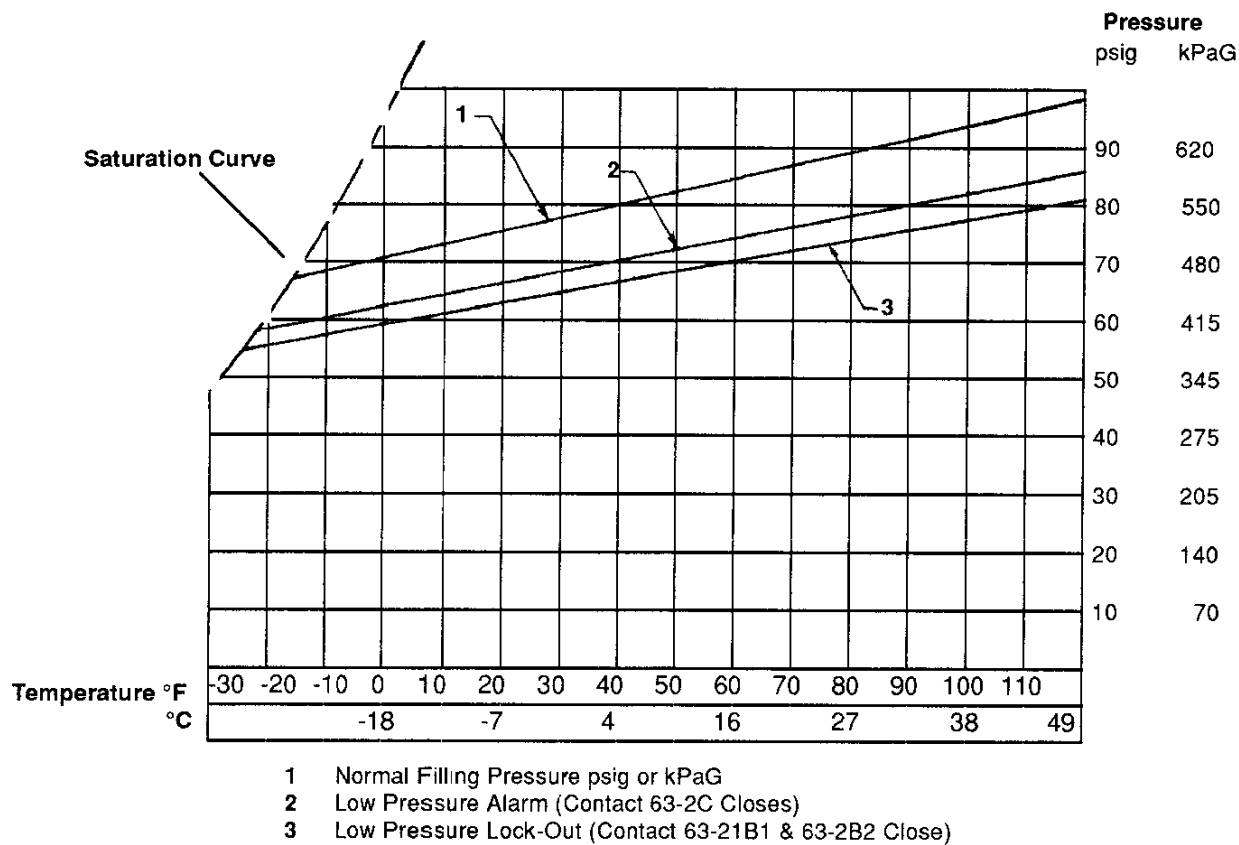

Figure 8
Set each switch to the pressure indicated in Figures 8 and 9.
**Tabular Version of the Pressure vs. Temperature Characteristics shown in Figure 8**